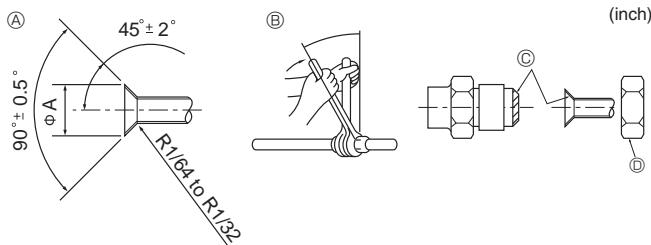

Fig. 4-1
4.2. Connecting pipes (Fig. 4-1)
⑤ Flare nut tightening torque